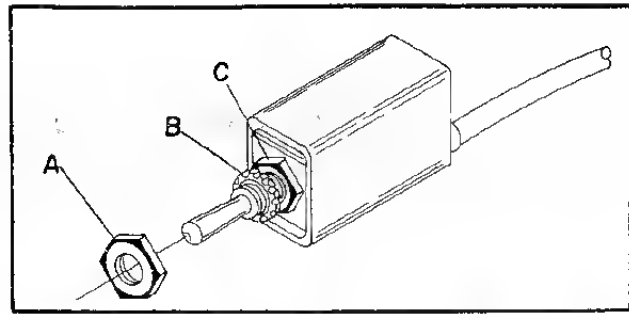

Fig. 9
2. Remove the outer hex nut (A) Fig. 9, from the switch stem. Leave shakeproof lockwashers (B) and inside hex nut (C) on switch stem. **CAUTION:** The proper grounding of the switch to prevent shock hazard, depends on the use of the shakeproof lockwashers in the manner shown.